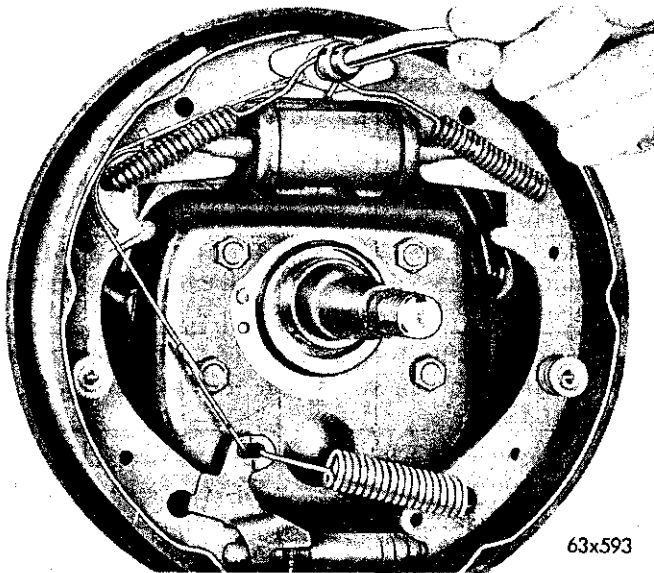

Fig. 4—Removing Brake Shoe Return Spring
- (1) Using Tool C-3785 remove the brake shoe return springs, as shown in Figure 4.
- (1) With the vehicle elevated on a hoist, jack or suitable stand use Tool C-845 and remove the hub and drum.
- (2) Using Tool C-3785 remove the brake shoe return springs, as shown in Figure 4.